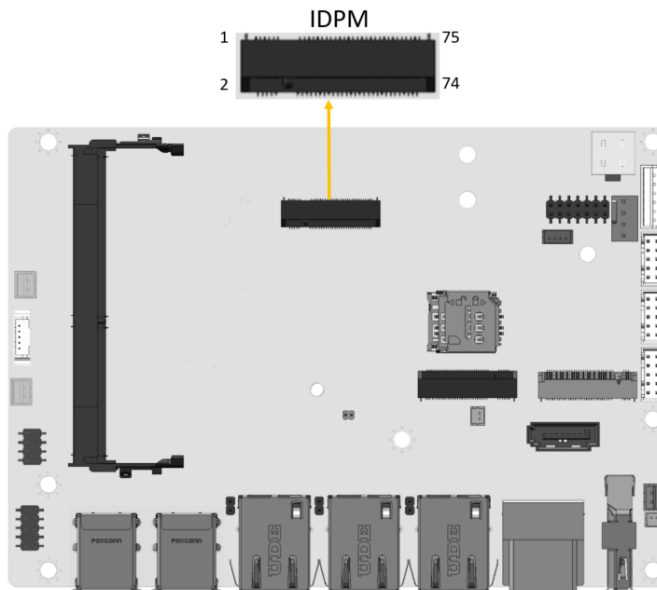

Figure 4-7: iDPM Connector Location
- CN Location:** See **Figure 4-7**